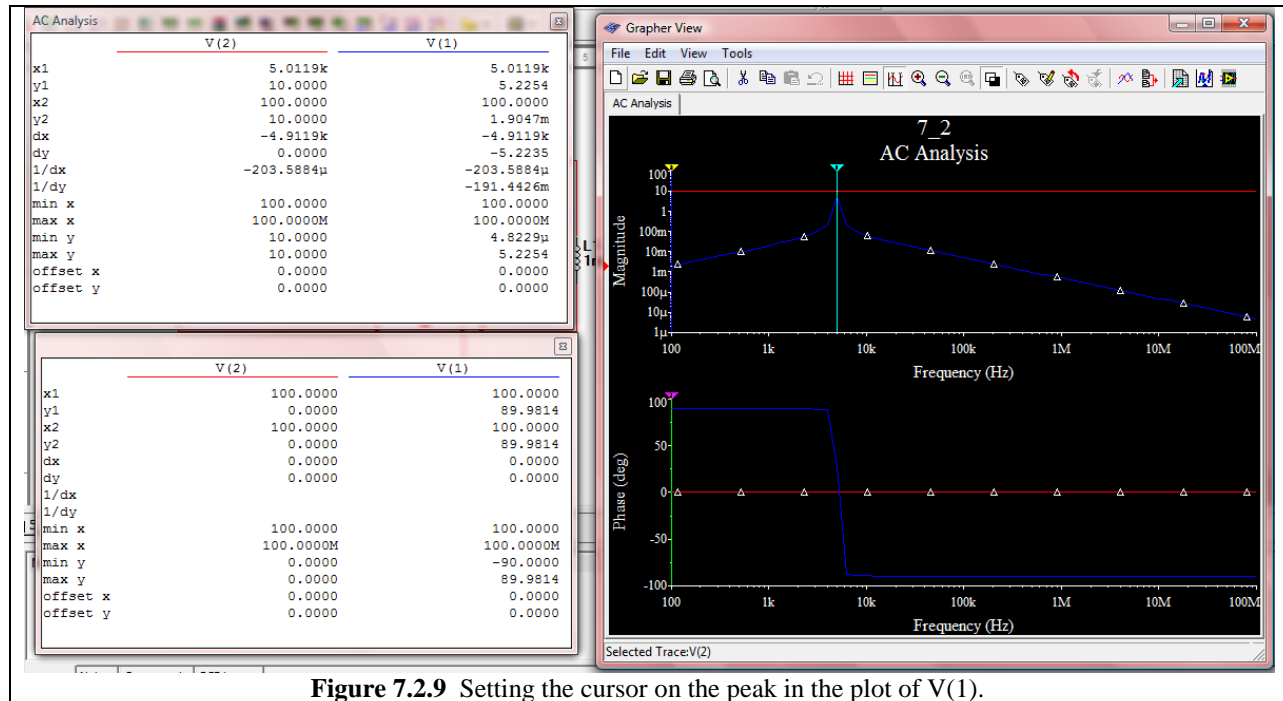

Figure 7.2.9 Setting the cursor on the peak in the plot of V(1).
Now with the proper trace ID selected, you can right click on the cursor and click on Go to next Y\_MAX (There will be a => or <= depending on which side of the maximum you are on...pick the proper direction). For example in Fig. 7.2.7, the cursor (hidden behind its window) is to the right of the peak in the blue trace, so you would click on Go to next Y\_MAX <= . The cursor will move to the peak of the V(1) trace, as shown in Fig. 7.2.9. Then in the measurement panels to the left of the screen you can observe where the peak is, and what the magnitude of the peak (the voltage) is. We see that the peak occurs at about 5.012 kHz.
*This value is pretty close to what we see in the simulation (5.012 KHz) shown in Fig. 7.2.9 below. So while this chapter isn't really supposed to go into resonance, it's still pretty cool to see it pop up during our AC Analysis.*